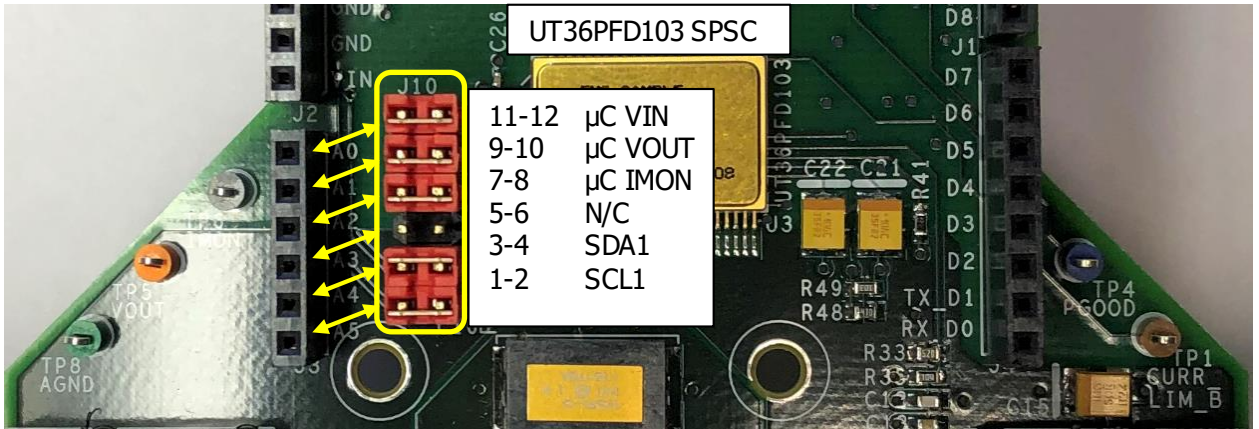

Figure 6: J10 Shunt Configuration
Step 2) Confirm the appropriate jumper shunts are in place on header J10, as shown in Figure 6. The μC VIN, μC VOUT, and μC IMON are analog representations of the corresponding telemetry points on the SPSC-EVB. The SDA1 and SCL1 signals connect the μC multi-function analog/GPIO pins to the SPSC’s redundant SMBus Data and Clock IO.